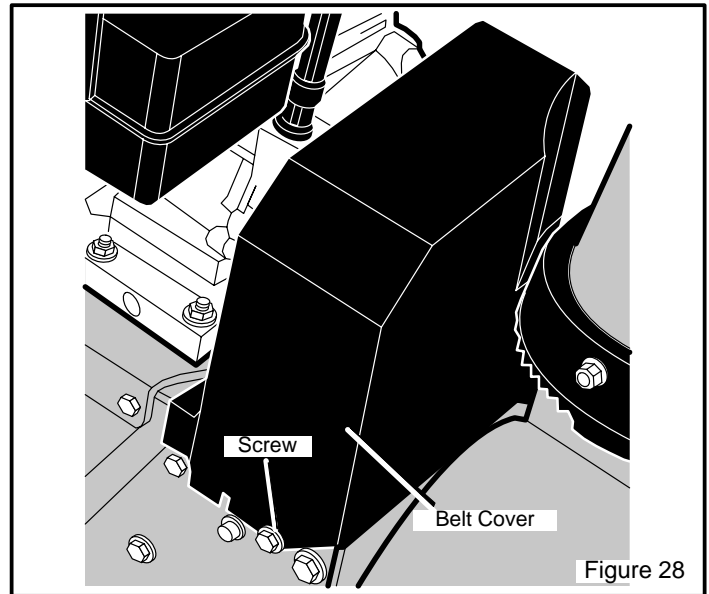

Figure 28
2. Remove **screw** from **belt cover**. Remove **belt cover** (see Figure 28).
4. Remove **screw** from **belt cover**. Remove the **belt cover** (see Figure 28).
11. Install the **belt cover**. Tighten **screw** (See Figure 28).
15. Install the **belt cover**. Tighten **screw** (see Figure 28).